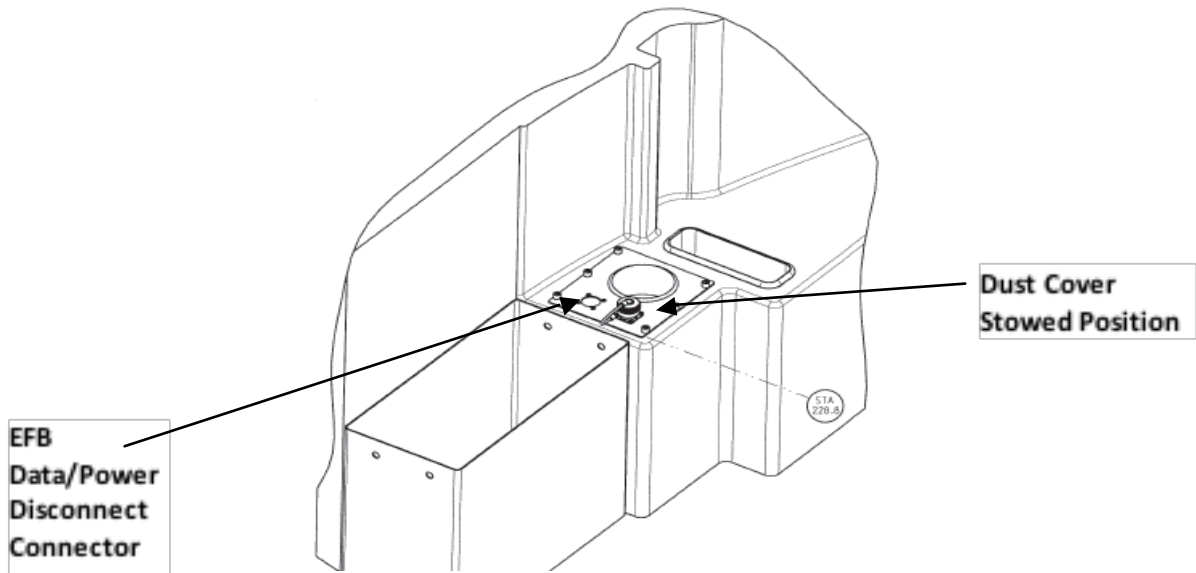

FIGURE 2 – DISCONNECT PANEL INSTALLATIONS
- » Two new connector disconnect panels were installed in the captain's and first officer's side consoles into existing mounting rails. EFB data/power disconnect connectors (Figure 2) are located on the left and right side consoles of the cockpit.